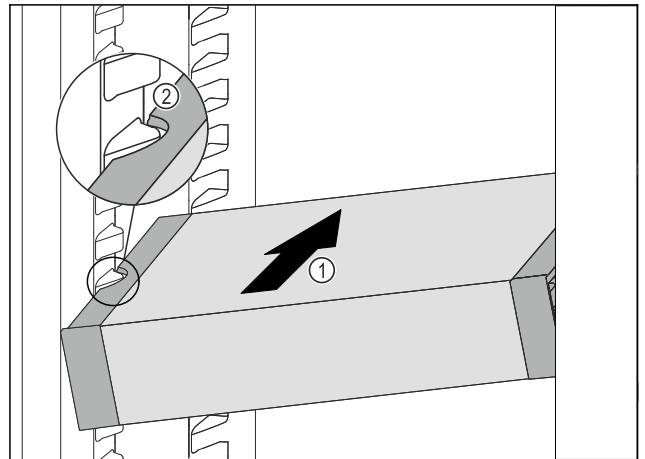

Fig. 117
- Insert the VarioSafe into the fridge section at an angle Fig. 117 (1) until the recesses in the side Fig. 117 (2) of the VarioSafe are at the level of the support rib in the fridge section.